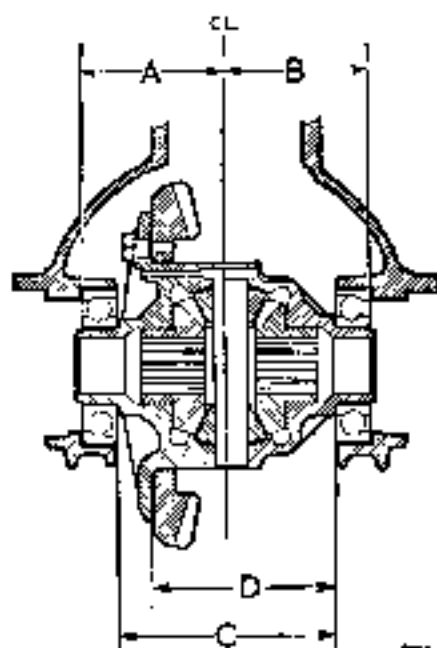

Fig. H.10
1. Before fitting the crown wheel and differential assembly to the gear carrier it is necessary to calculate the shim thickness required behind each bearing to give the required pinch. To facilitate the calculation, machining variations are indicated by stamped numbers on the carrier adjacent to the bearing boxes. The dimensions to be considered are shown in Fig. H.10, (A) being the distance from the centre-line to the bearing register of the carrier on the left-hand side and (B) the distance from the centre-line to the bearing register of the carrier on the right-hand side. The (C) dimension is from the bearing register on one side of the cage to the register on the other side, while the (D) dimension is from the rear face of the crown wheel to the bearing register on the opposite side. Any variation from nominal on the (A) dimension will be found stamped on the carrier adjacent to the bearing bore, and similarly with the (B) dimension. The variations from nominal on (C) and (D) dimensions are stamped on the machined face of the differential cage.